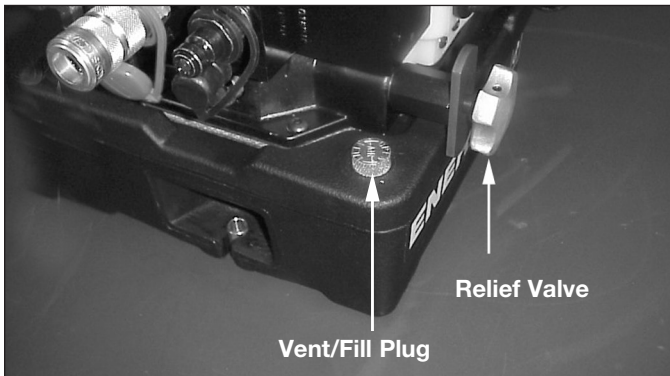

Figure 1 - Relief Valve
4. Loosen locknut and back out (turn counter-clockwise) relief valve to prevent unintended pressure build-up. No tools are needed to adjust the relief valve. See Figure 1.